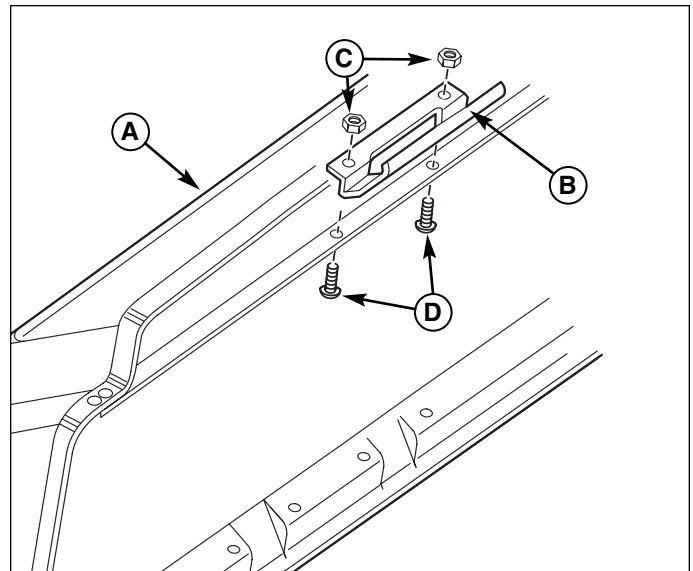

Figure 7. Remove Latch
6. Remove and discard the latch (B, Figure 7) from the cover assembly (A). Remove and retain #10-24 x 5/8 screws (D) and #10-24 locknuts (C).